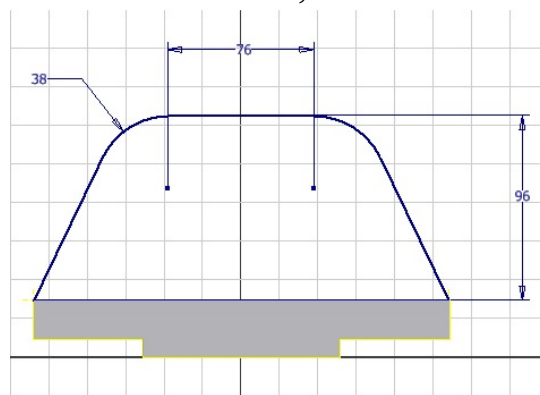

Figure 6-107 Sketch for the join feature
1. Define a new sketch plane on the back face of the base feature. Draw the sketch for the join feature and then add the required constraints and dimensions to it. The sketch after adding constraints and dimensions is shown in Figure 6-107.